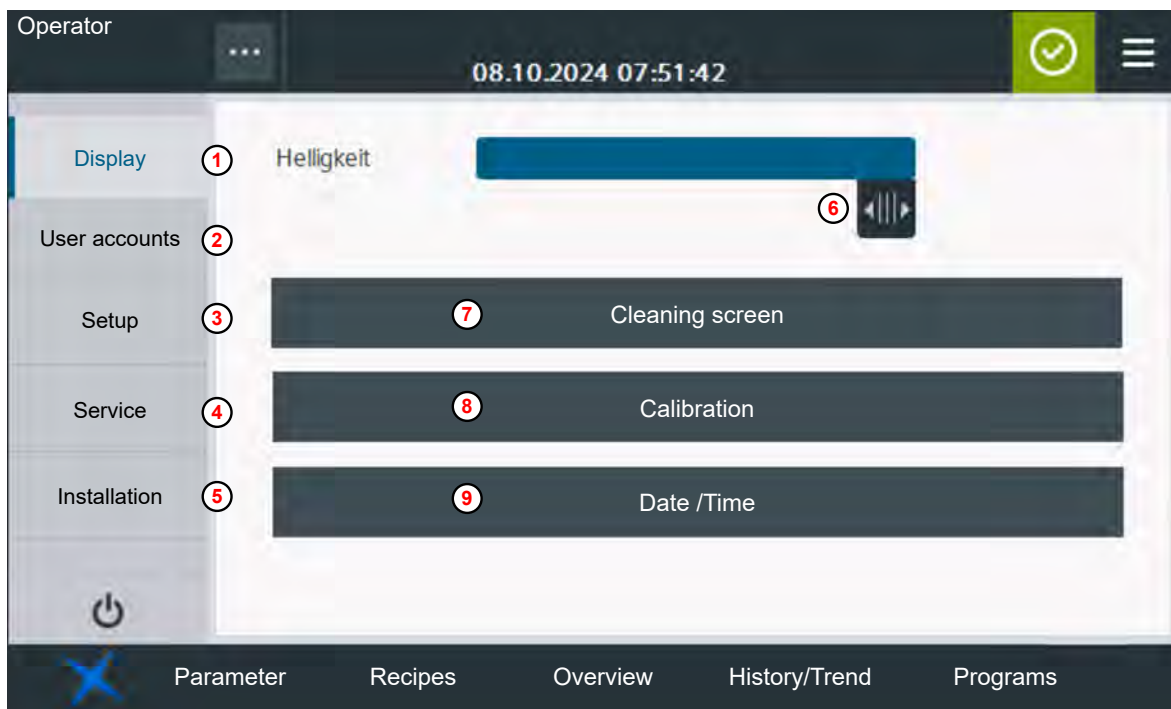

Fig. 85: [Display]
1. → [Display] Press the [] key (see Fig. 85, no. ①)
2. → Move the slider (see Fig. 85, no. ⑥) left or right.
1. [DisplayPress the] key (see Fig. 85, no. ①)
2. [Cleaning screenPress the] key (see Fig. 85, no. ⑦).
1. ➤ [Display] Press the [] key (see Fig. 85, no. ①)
2. ➤ [Calibration] Press the [] key (see Fig. 85, no. ⑧).
2. ➤ [Date /Time] Press the [] key (see Fig. 85, no. ⑨).